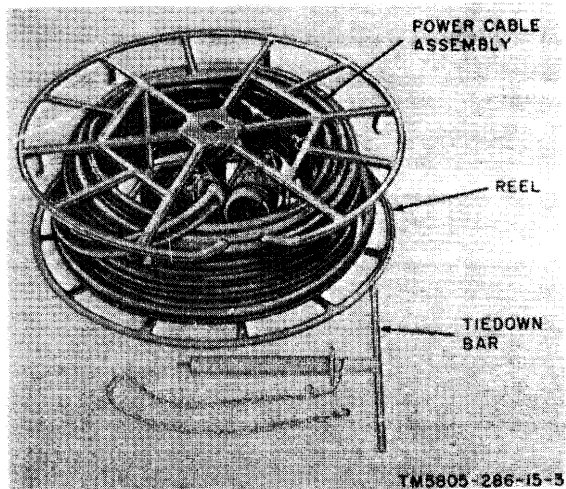

Figure 2-4. Power cable assembly and reel, with tiedown bar.
- (1) Remove the power cable assemblies (fig 2-4) and power cable stubs (as applicable) from inside the van. Remove the power cable from the reel.
- (2) Check to be sure that all circuit breakers on the van power distribution panel are operated to OFF.